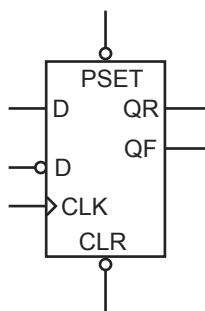

Figure 2-6 • DDR Register
2. Instantiate the DDR_REG macro (Figure 2-6)